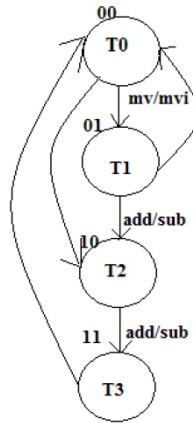

Figure 5. Control Unit FSM
- As we said before, the control unit can be seen as a finite state machine. It can be described with the state diagram in Figure 5. For instance, the diagram shows that the system starts at the (T0) state and get the opcode for the instruction from input, then based on the opcode, the system will move to either the Move(T1) or Add(T2) state. If the system is at the Add (T2) state, it will automatically move to the T3 state on the next clock cycle. Then, the system will return to the Decode state when the *Done* signal is set to 1 and the instruction register has been enable. Thereby, the above diagram shows that both the **mv** and the **mvi** commands can be seen as if combined into one state, Move. Similarly, both the **add** and **sub** instructions can be regarded as combined into two states, Add1 and Add2.